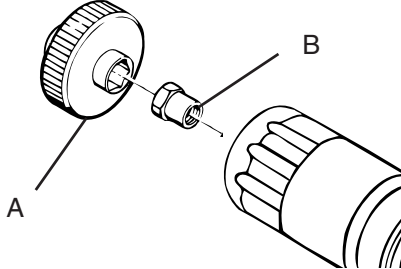

Figure 5
1. Screw out spray tip (B) with tip wrench (A). (See Fig.5)